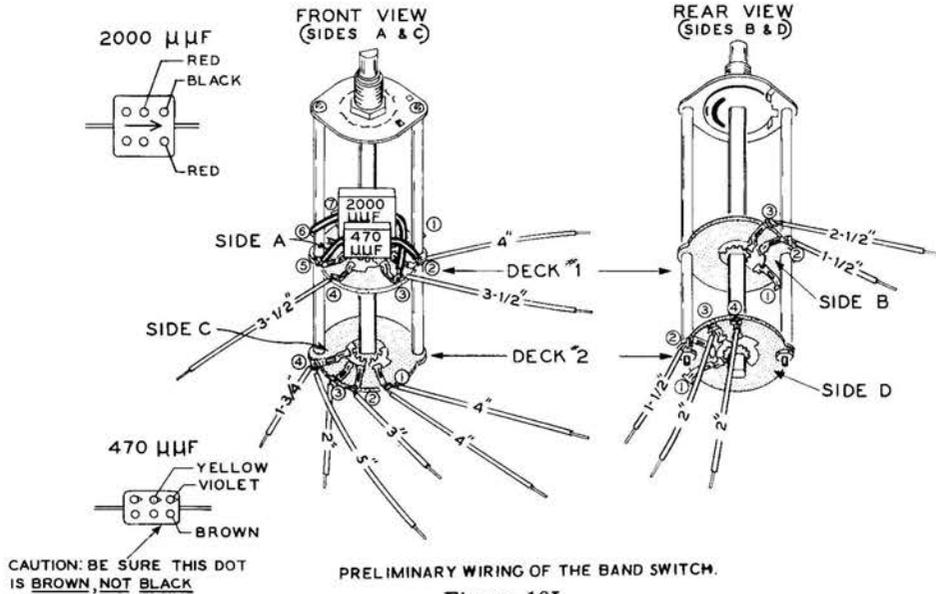

Figure 10L
Refer to Figure 10L for the following steps.
- (✓) ^{AB} P Using sleeving on both leads, connect a 2000 μ mf mica capacitor from lug 3 (NS) to lug 6 (S) on side A of the band switch.
- (✓) P Using sleeving on both leads, connect a .00047 μ fd (470 μ mf) mica capacitor from lug 2 (NS) to lug 5 (S) on side A of the band switch. This capacitor may have the color dots to identify it, or it may have .00047 (or just 470) printed on it. See the detail drawing in Figure 10L.
- (✓) P Connect a 3-1/2" length of hookup wire to lug 3 of side A of the band switch (S).
- (✓) P Connect a 4" length of hookup wire to lug 2 of side A of the band switch (S).
- (✓) P Connect a 3-1/2" length of hookup wire to lug 4 of side A of the band switch (S).
- (✓) P Connect two 4" lengths of hookup wire to lug 1 of side C of the band switch (S).
- (✓) P Connect a 3" length of hookup wire to lug 2 of side C of the band switch (S).
- (✓) P Connect a 3-1/2" length of hookup wire to lug 3 of side C of the band switch (S).
- (✓) P Connect a 1-3/4" length of hookup wire to lug 4 of side C of the band switch (NS).
- (✓) P Connect a 4-1/4" length of hookup wire to lug 4 of side C of the band switch (S).
- (✓) P Connect a 1-1/2" length of hookup wire to lug 2 of side B of the band switch (S).
- (✓) P Connect a 2-1/2" length of hookup wire to lug 3 of side B of the band switch (S).